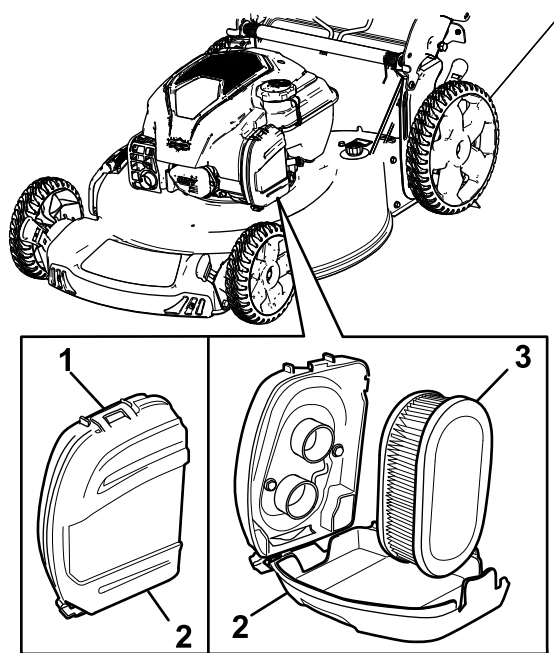

Figure 25
- 1. Unclip the top of the air-filter cover (Figure 25).
- 2. Remove the air filter (Figure 25).